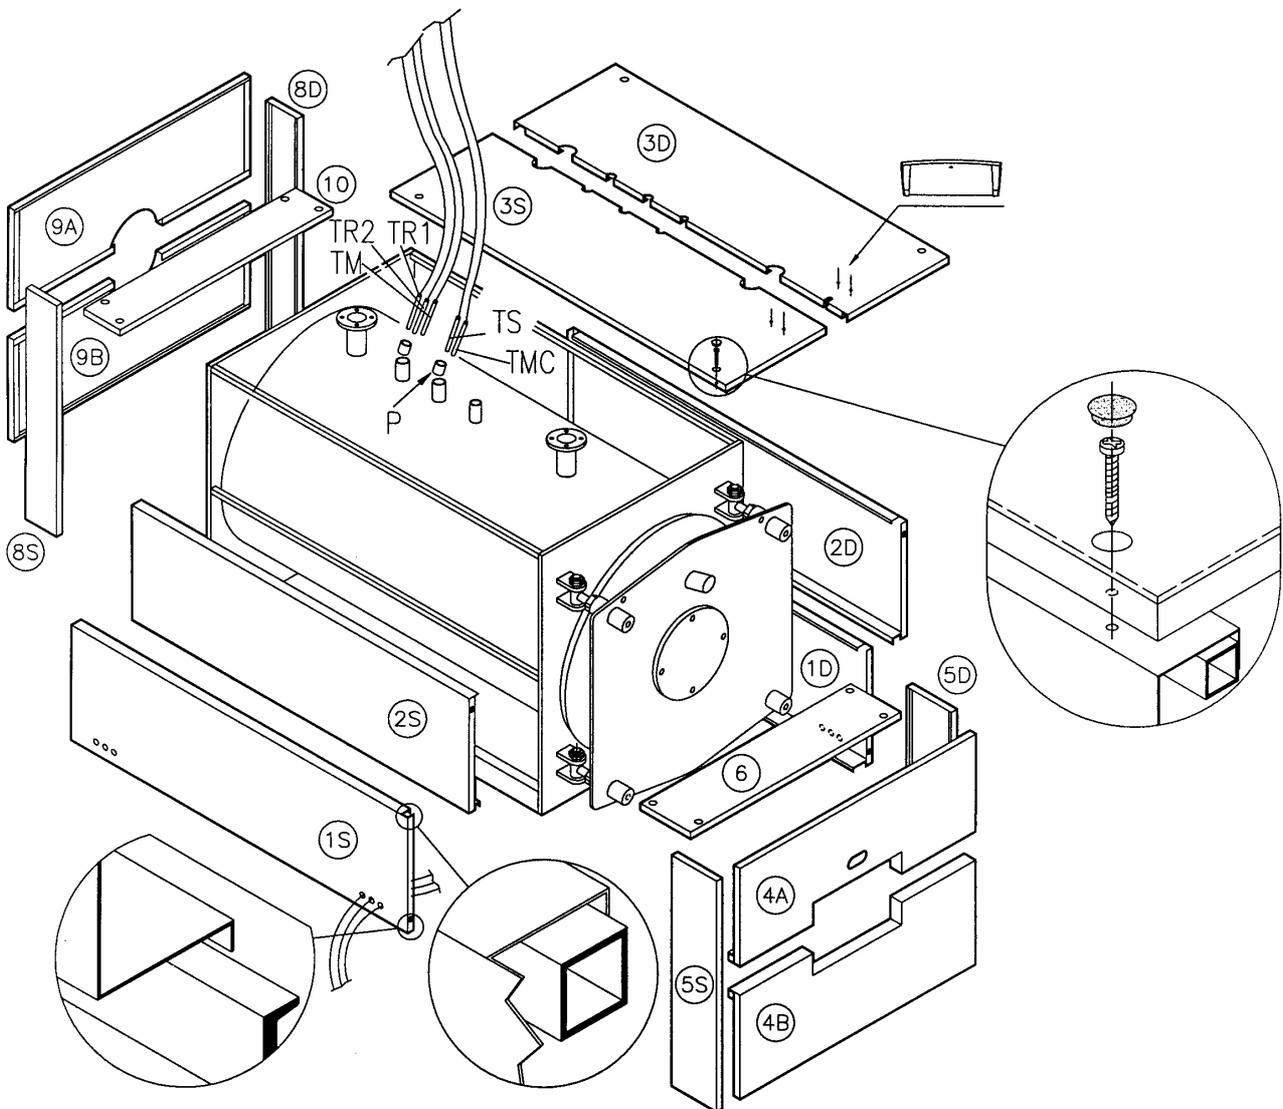

Fig. 9
4.3 REX/REX K 50÷130 BOILER CASINGS (Fig. 9)